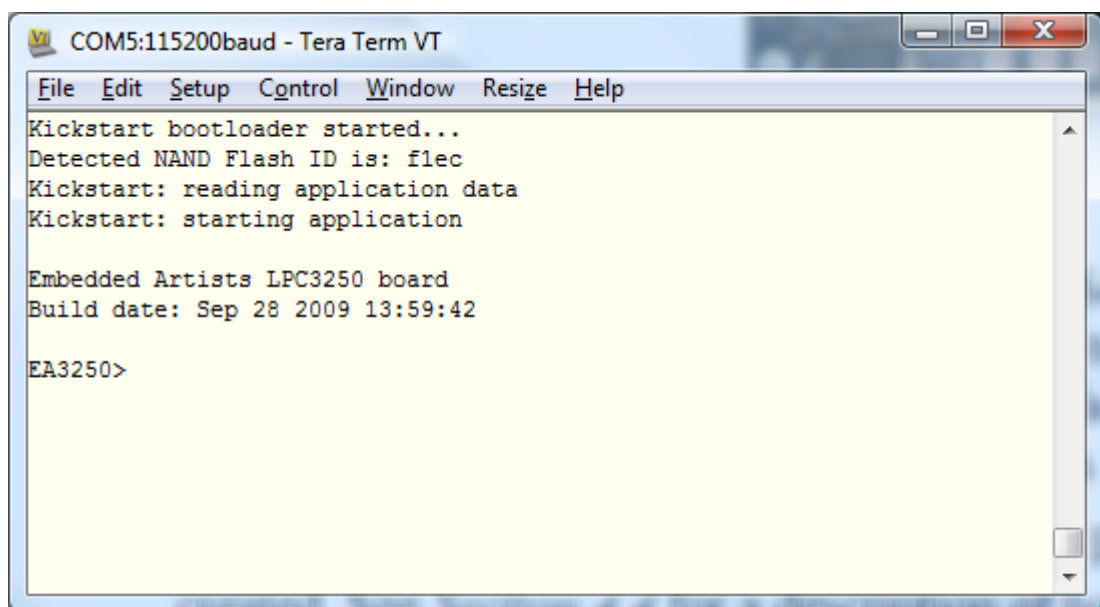

Figure 2 S1L Bootloader Console
8. Reset the board by pressing the Reset button. The S1L bootloader will boot, see Figure 2 to see what it looks like in Tera Term.
Make sure you have followed the instructions in section 2.2 and that you have output in your terminal application similar to the output shown in Figure 2.